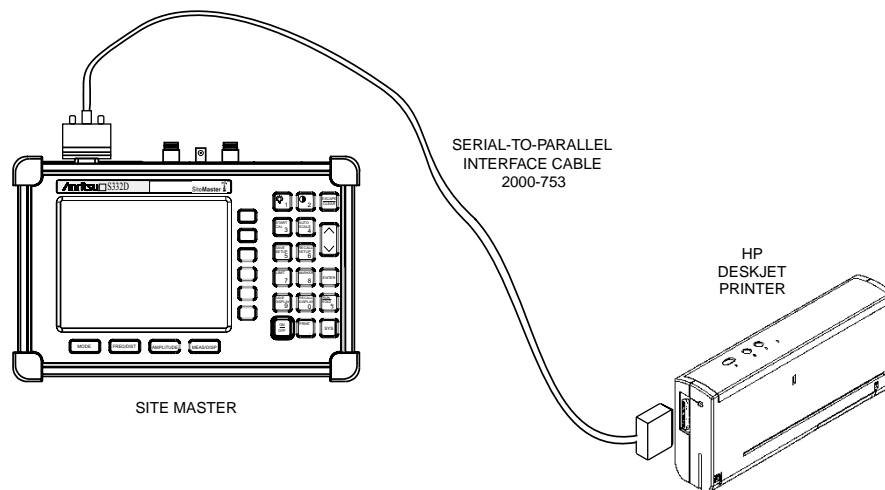

Figure 3-4. Site Master Printer Setup
- Step 5.** Connect the printer as shown in Figure 3-4.